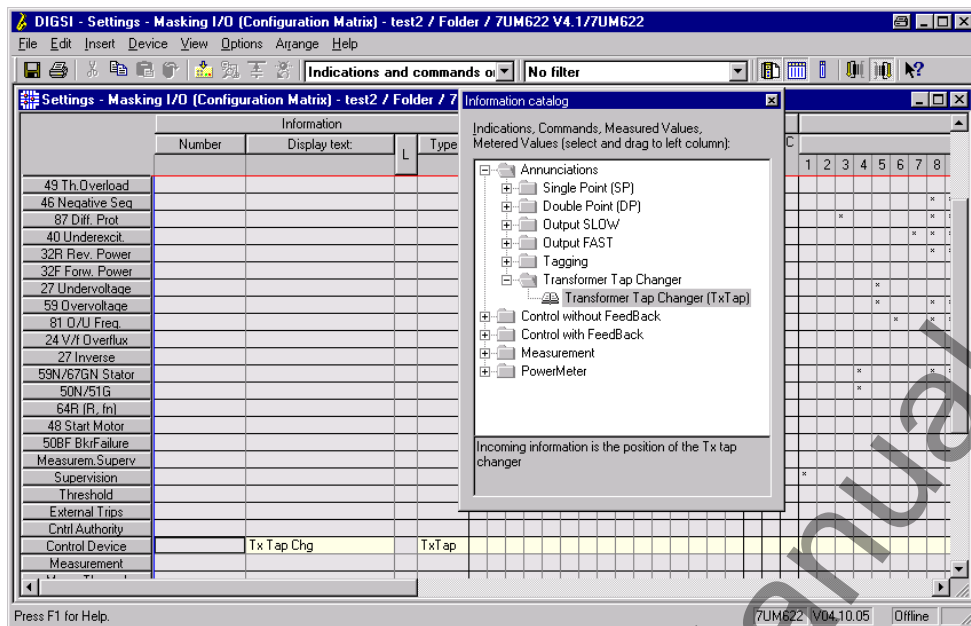

Figure 2-34 Example of Matrix and Information Catalogue
- A transformer tap indication must be inserted in the configuration matrix under DIGSI (see figure 2-34).